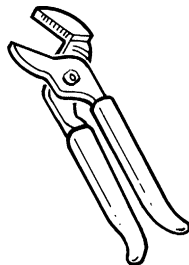

Figure 31
**Step 24:** When all points of interference are corrected, install three (3) tray spacers (Item 2) using Item 1 and Item 3. Water pump pliers (Channel-lock pliers) work well for this purpose (Figure 31). Item 3, the gauge is used to position the tray spacer assembly the proper distance from the front rail spacer bar. After the rivet (Item 1) is in place, remove the tray spacer gauge. Apply a small amount of Antiseize compound between Items 1, 2 and 4. **Install the tray spacers so that those on the outer two (2) columns always point towards the centre of the rack.**